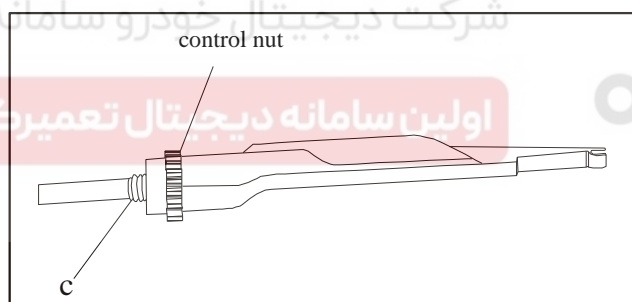

Fig.5-23 Clearance Self-control Lever
(1) Before the installation, wipe the operating surfaces of friction plate and brake drum with clean cotton yarns, on which any grease or grease stain shall not exist.
(2) Before installing the brake shoe, apply a little of lubricant to six supporting points of brake shoe.
(3) Before installing the clearance self-control lever, tighten the control nut to limit position c, as shown in Fig.5-23.